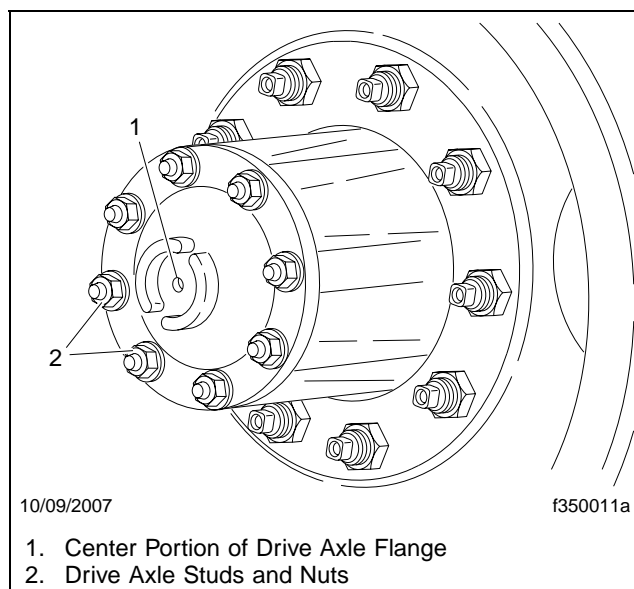

Fig. 1, Wheel Assembly and Hub
3. Remove the drive axle stud nuts and washers. See **Fig. 1**.